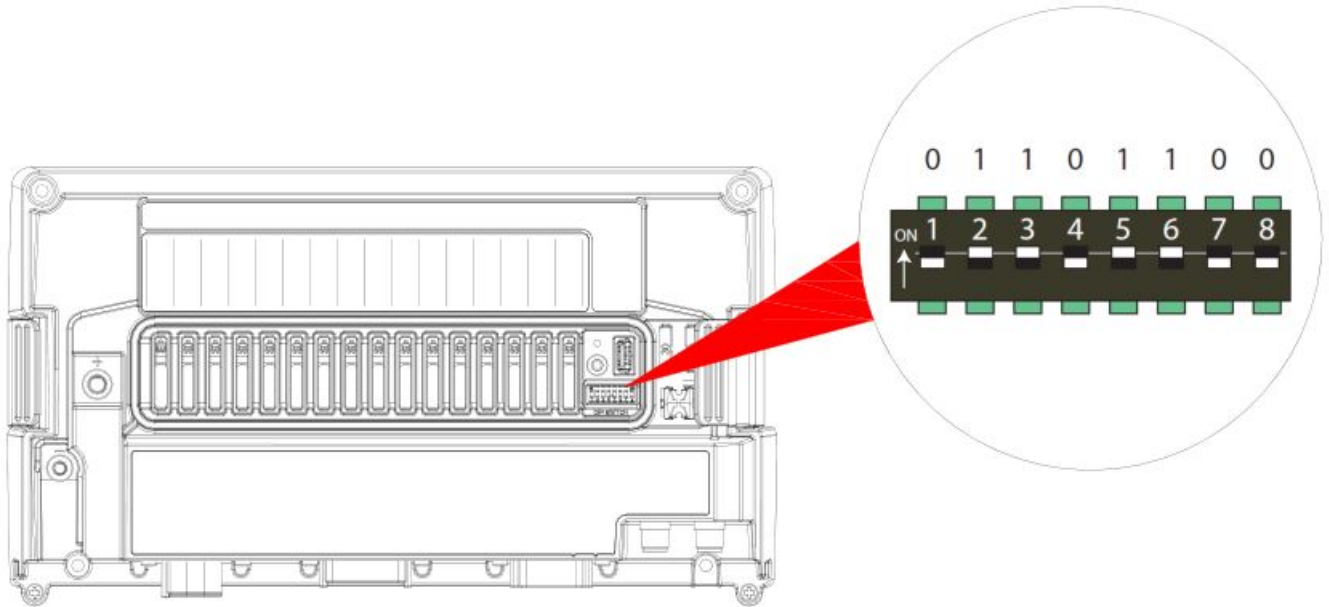

Figure 15. Setting Dipswitch
- Using a small screwdriver carefully set the dipswitch on the COI. The dipswitch number must be unique for all modules on the CZone network and must match the dipswitch setting in the configuration to function correctly. The example in Figure 15 shows a dipswitch number of 01101100 where 0 = Off and 1 = On